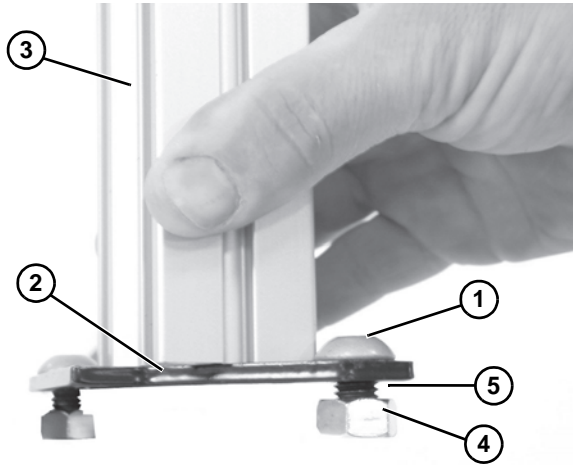

Figure 4
3. Place a button screw (**Figure 4, item 1**) through each hole in the end plate (**Figure 4, item 2**) of a leg tube (**Figure 4, item 3**). Attach a hex nut (**Figure 4, item 4**) to the screw. Leave a gap (**Figure 4, item 5**) between the nuts and end plate.